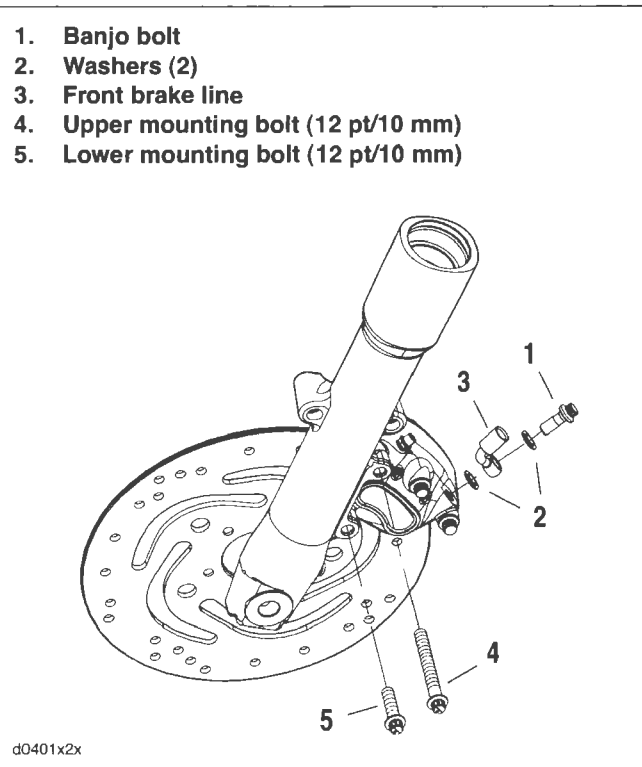

Figure 2-61. Front Caliper Mount
1. See Figure 2-61. Remove the banjo bolt (1) and both steel/rubber washers (2) to detach front brake line (3) from caliper. Discard washers.
2. Remove both the upper (4) and lower (5) mounting bolts (12 pt/10 mm). Lift caliper upward to remove from brake disc.
1. See Figure 2-61. Attach caliper to fork leg.
- b. Loosely install long mounting bolt (4) (12 pt/10 mm) into top hole on fork leg.
- c. Install short mounting bolt (5) (12 pt/10 mm) into bottom hole on fork leg. Tighten bottom mounting bolt to 28-38 ft-lbs (38.51.5 Nm).